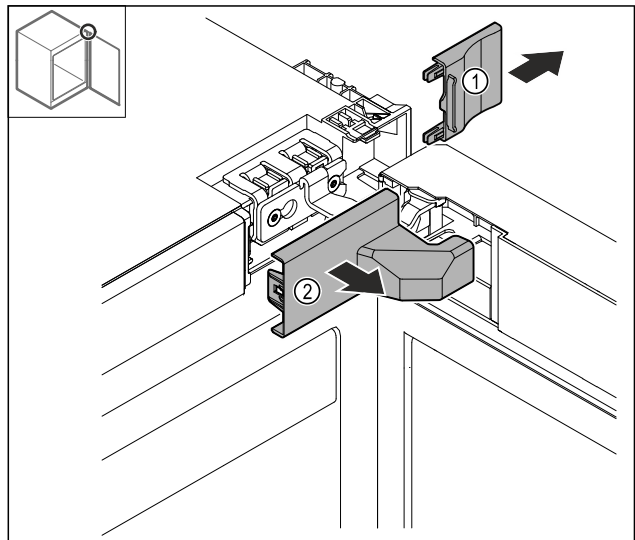

Fig. 6
- ▶ Remove the cover Fig. 6 (1) and then cover Fig. 6 (2).